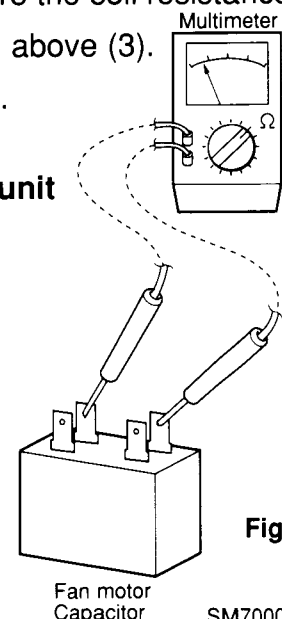

Fig. 49
⑤ Fan motor capacitor Both in indoor and outdoor unit
- Remove the lead wires from the capacitor terminals, and then place a probe on the capacitor terminals as shown in Fig. 49. Observe the deflection of the pointer, setting the resistance measuring range of the multimeter to the maximum value.